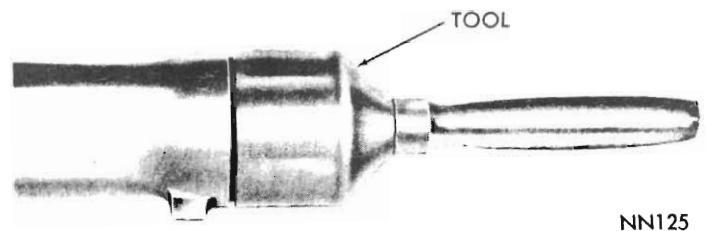
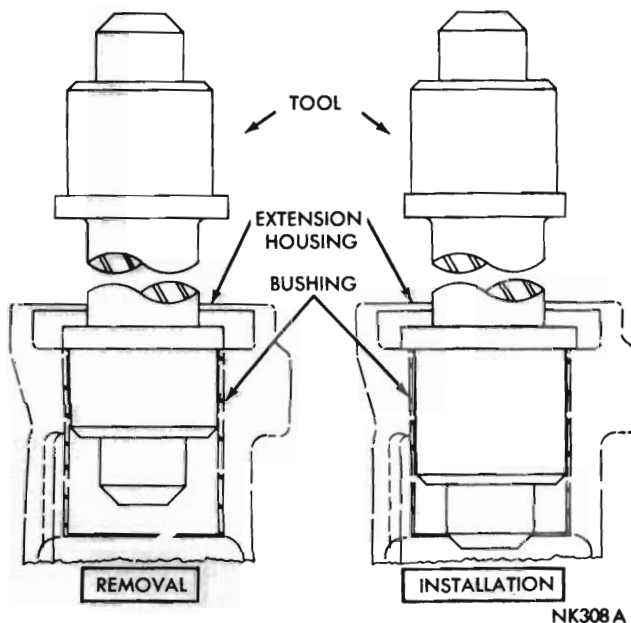

Fig. 17 - Installing extension housing yoke seal
Fig. 18 - Replacing extension housing bushing
(3) To install a new seal, position seal in opening of extension housing and drive it into the housing with Tool E21C50C (Fig. 17).
(1) Pry or drive oil seal out of extension housing with a long blunt drift. Be sure not to mar oil seal surface in the housing.
(2) Press or drive out bushing with Tool E21C50E (Fig. 18).
(3) Slide a new bushing on installing end of Tool E21C50E. Align oil hole in bushing with oil slot in the housing, then press or drive bushing into place.
(4) Install a new oil seal into housing with Tool E21C50C (Fig. 17).